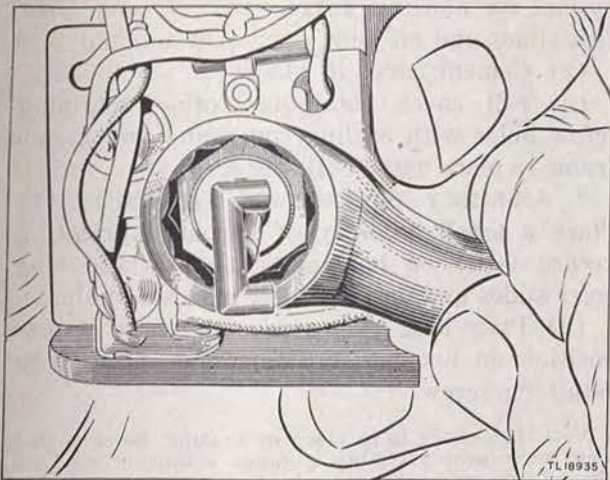

Figure 53. Removal of on-off switch retainer nut, Radio Receiver and Transmitter BC-611-(*).
b. REPLACEMENT. (1) Place switch in chassis in proper position as shown in figure 25, and fasten in place with switch retainer nut. (See fig. 53.)
(2) Bend B— solder lug into proper position.